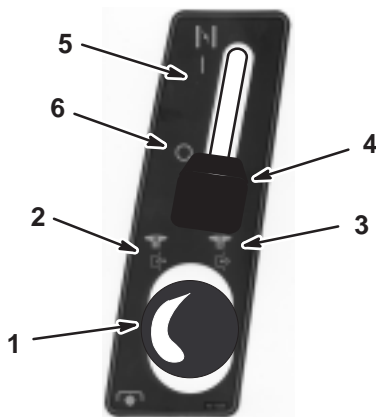
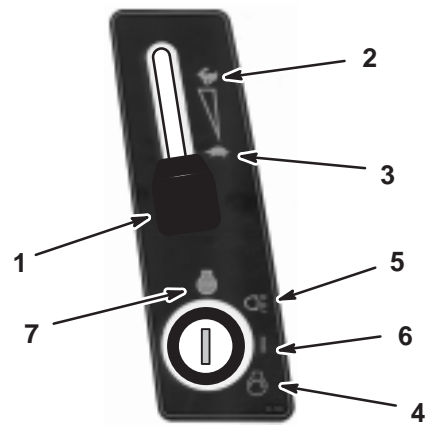

Figure 10
Figure 11
4. Disengage the PTO (Fig. 10).
5. When starting a cold engine, move the choke lever to the On position (Fig. 10).
6. Move the throttle lever to the Slow position (Fig. 11).
7. Turn the ignition key clockwise and hold it in the Start position (Fig. 11). When the engine starts, release the key.
8. After the engine starts, slowly move the choke lever to Off (Fig. 10) and the throttle lever to Fast (Fig. 11).
1. Move the throttle lever to Slow (Fig. 11).
2. Turn the ignition key to Off (Fig. 11).